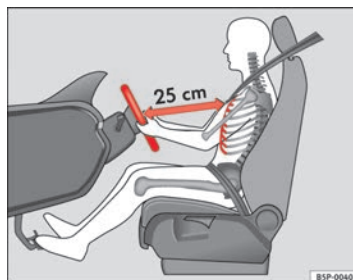

Fig. 137 Proper sitting position for driver
- Adjust the steering wheel until the correct position is set \Rightarrow fig. 137.
- Adjust the driver seat or steering wheel so that there is a distance of at least 25 cm between the steering wheel and your chest => page 172, fig. 137. If you fail to observe the minimum distance, the airbag will not protect you. Risk of fatal injury.